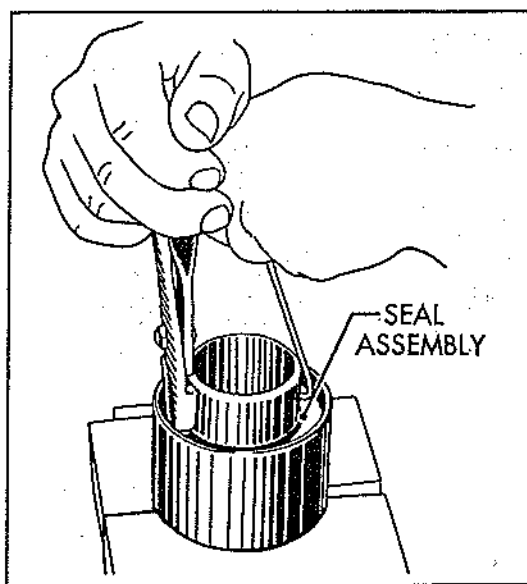

Figure 70.—Removing Seal Assembly
(4) Remove the seal assembly with pliers and hook as shown in Fig. 70.